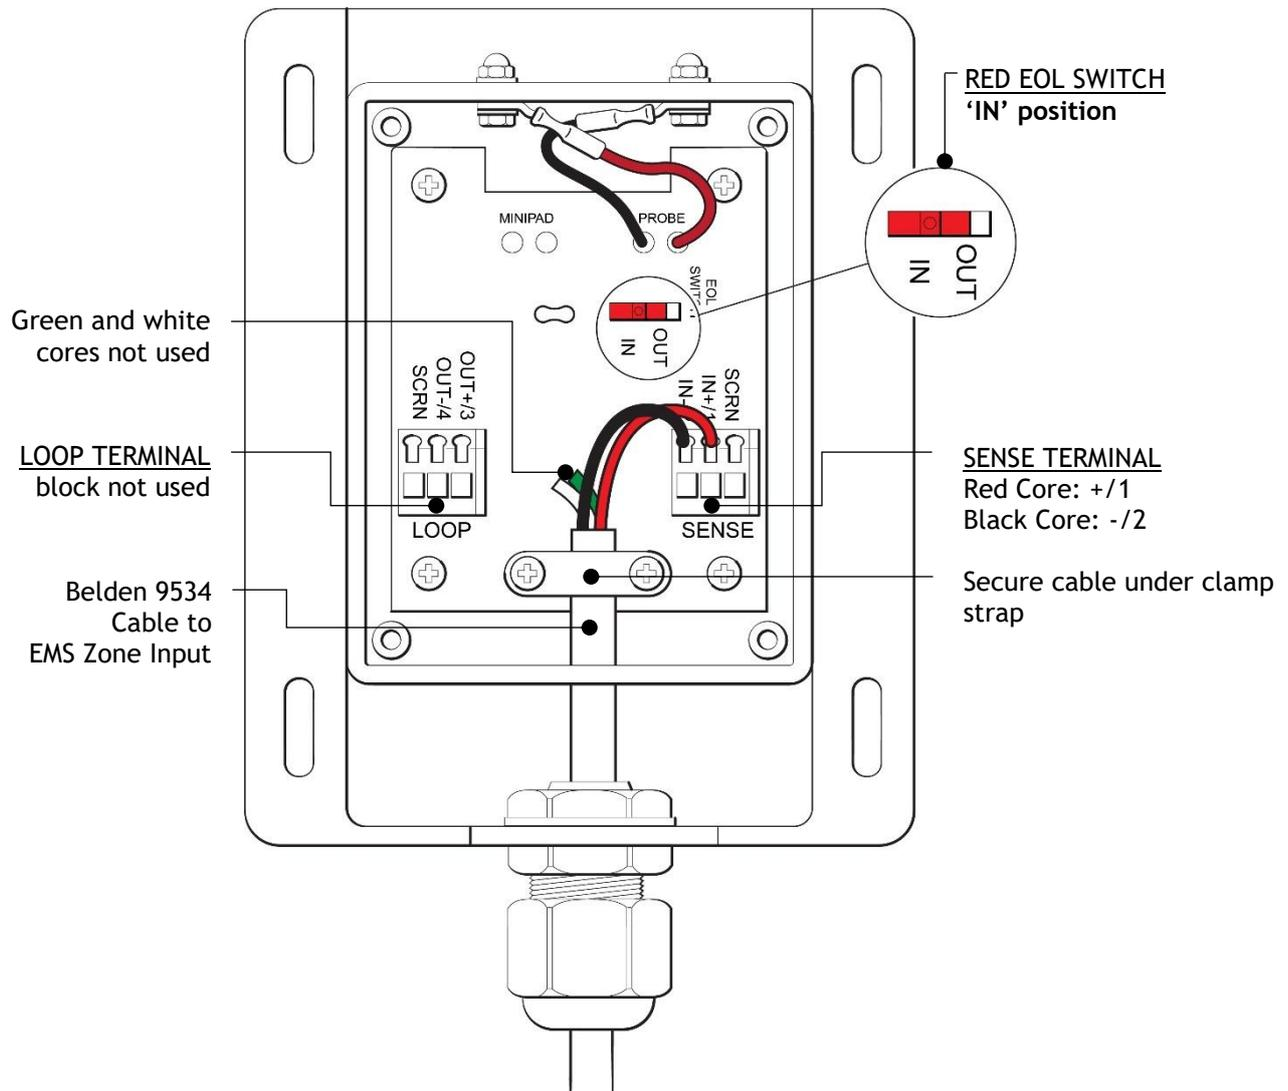

Figure 9: Sensor Cable Connection using Single ESD Sensor Probe
2. Connect the opposite end of the leader cable to the ESD probe, and ensure that the EOL Switch is set to the 'IN' position (Figure 9).